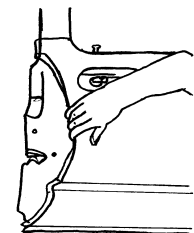

FIG. 7
7. Where possible, trim material to allow ½ inch to 1-inch overhang beyond corners and edges of vehicle panel and wrap material firmly using finger pressure. Avoid trapping air in these areas. (See fig. 7)